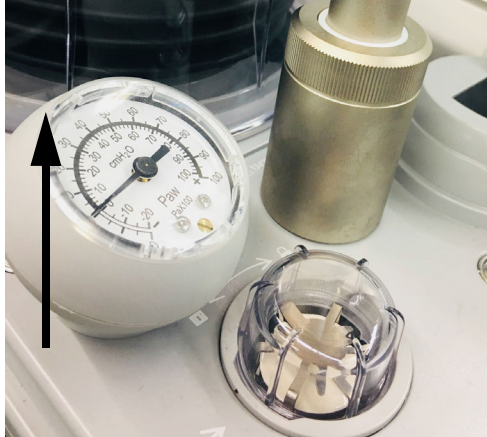

FIGURE 7-15 PAW Gauge Removal
1. The PAW gauge is a component that is plugged into position for use. It is not necessary to remove this component to clean it. However, if removal is desired, simply hold it and lift it straight up from the breathing system block (see FIGURE 7-15).